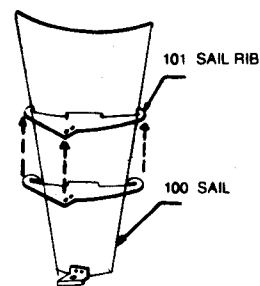

FIGURE 7
ASSEMBLY AND INSTALLATION OF THE WHEEL (PART 799) TO THE WHEEL HUB AND MOTOR. Refer to figures 7,8,9,10 and 11.
1. Slide the SAIL RIB (PART 101) over the small end of the SAIL ASSEMBLY (PART 100) until the rib fits into the rectangular notches on each side of the sail. Repeat this step for each of the 18 sails. See figure 7.